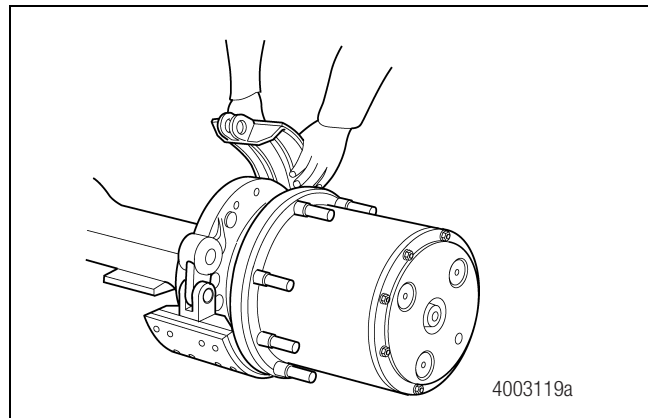

Figure 5.13
2. Install the new cam rollers. Place the brake shoes into position on the spider. Figure 5.13.